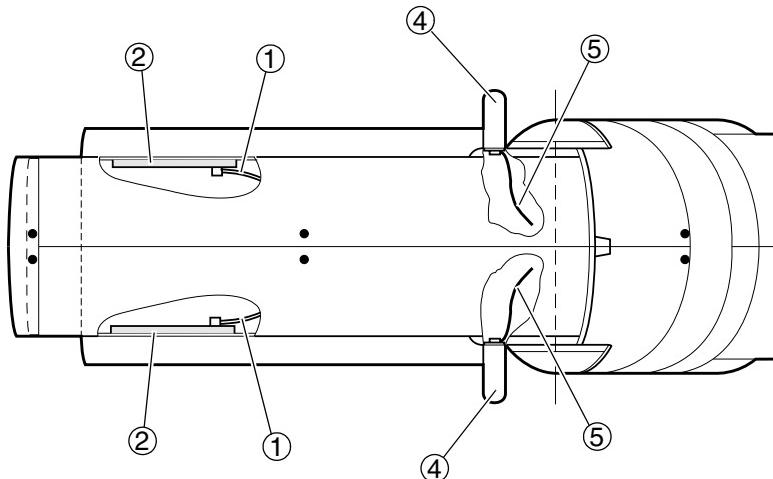

Fig. 1 Connecting the cables
1. Connect cables X807 (1/Fig. 1) to control button circuit boards D807 (2/Fig. 1).
2. Connect ground wires (3/Fig. 1) to patient handles (4/Fig. 1).